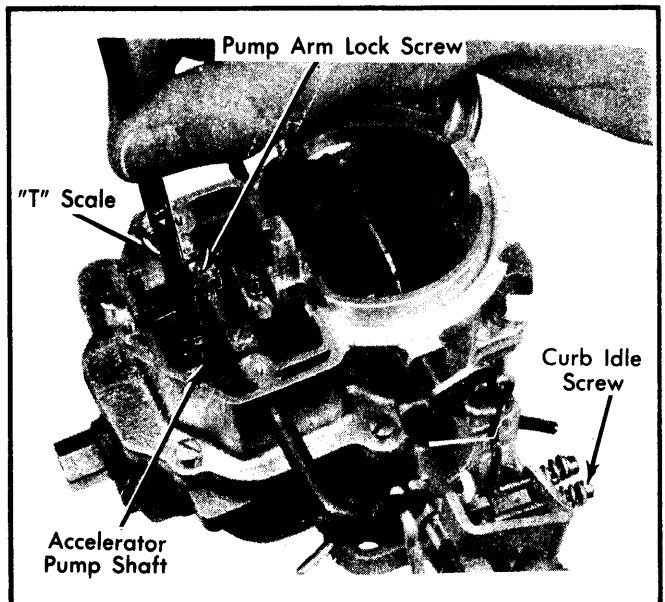

Fig. 4 Adjusting Accelerator Pump Stroke
- 1) Remove step-up piston cover plate and gasket. Back off curb idle screw to fully close throttle valves. Fast idle cam must be in open position. See Fig. 4.